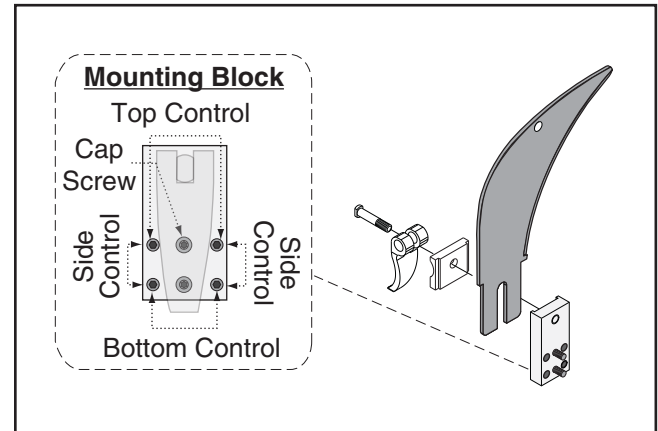

Figure 7. Mounting block controls.
- 9.** Loosen (2) cap screws on mounting block, then adjust set screws on block to move it in necessary direction (see **Figure 7**).